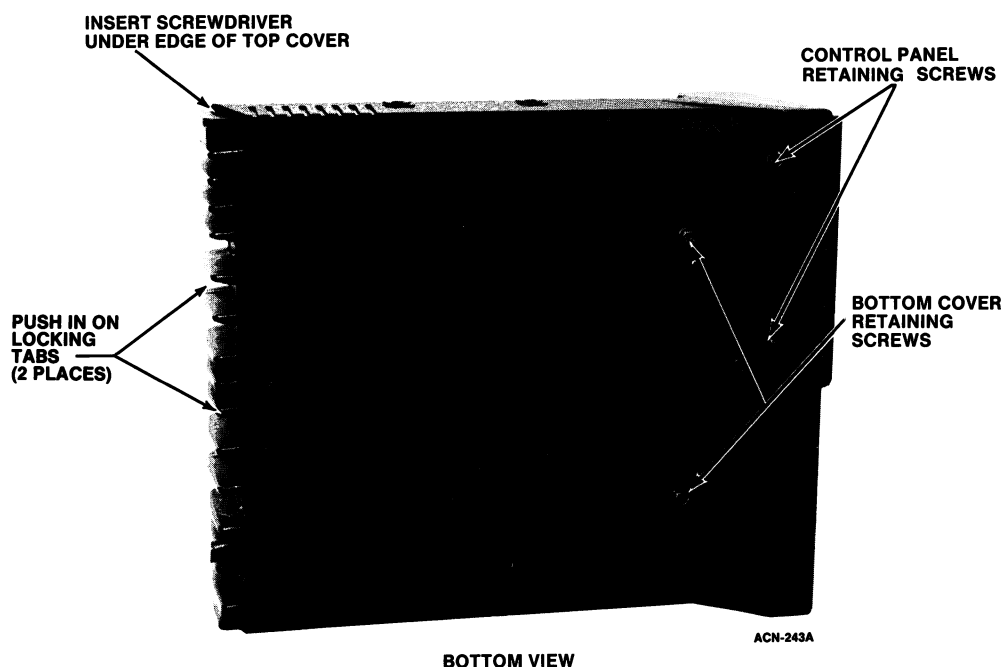

FIGURE 1 - BOTTOM VIEW
1. Insert a small standard screwdriver under one side of the top cover and gently pry the side of the cover away from the frame releasing the locking tab (refer to Figure 1).
Remove the two screws securing the bottom cover to the radio. One of the screws is used to hold the microphone strain relief (refer to Figure 1). The bottom cover can then be removed from the radio.